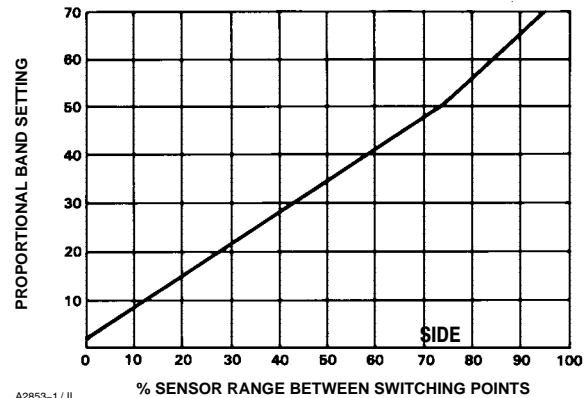

Figure 5-3. Curve for Determining Proportional Band Setting
Figure 5-3 shows the relationship between the percent of sensor range between switching points and the proportional band setting on the controller. The following example illustrates how to use figure 5-3.
- Locate the 50 percent line on figure 5-3. Move along this line until you intersect the curve. Read the proportional band setting on the left hand axis. For this example, the setting is approximately 35 percent.
1. Using the curve in figure 5-3, determine the correct proportional band setting for the desired gap (expressed as a percent of the input span) between the switching points.
1. Using the curve in figure 5-3, determine the correct proportional band setting for the desired gap (expressed as a percent of the maximum input element span) between the switching points.